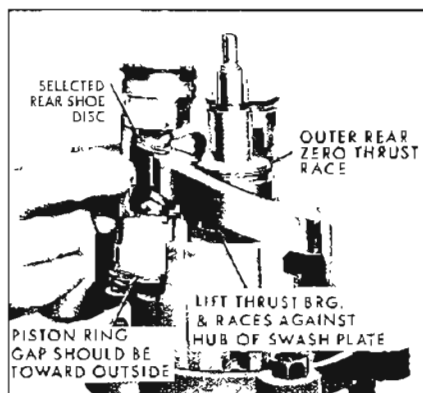

Figure 11-138—Installing Piston in Cylinder Assembly
3. With front and rear thrust bearing assemblies on shaft and shaft installed in front cylinder half, rotate swash plate so high point is above cylinder bore No. 1. Carefully assemble No. 1 piston (complete with ball and zero shoe on FRONT end, and ball and numbered shoe on REAR end) over swash plate. See Figure 11-138. Position piston rings so that the gap is toward center of cylinder. Compress and enter piston ring into front half cylinder. Repeat